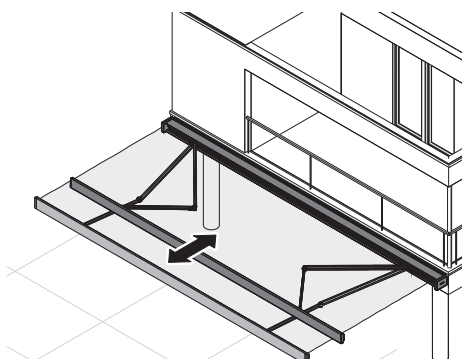

Fig. 19: Move the fabric panel
2. Insert the manual crank in the incline adjustment slot (fig. 19).